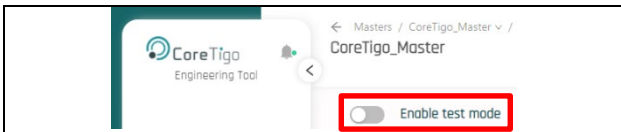

Figure 53: Test Mode Button in Off Position
- If you have finished testing, toggle the **Test Mode** switch to the Off position (see Figure 53) to restore operational functionality.